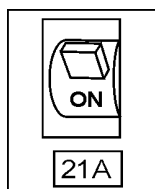

Figure 17. Main Circuit Breaker (ON)
- Place main circuit breaker (Figure 17) in the **ON** position.